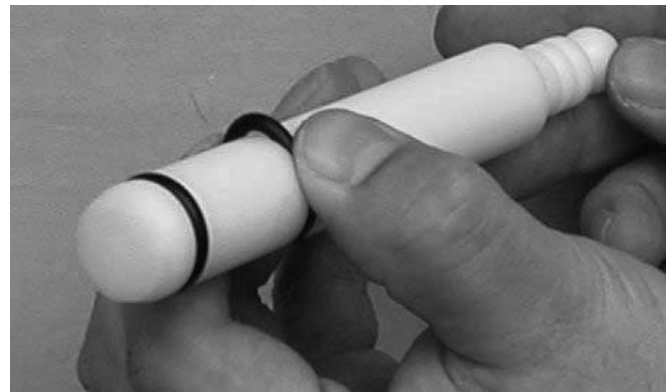

Figure 3-4 Removing O-Ring
5. Remove all o-rings from parts by first wiping off the lubricant using a clean towel. Then squeeze the o-ring upward to form a loop (Fig. 3-4). Roll out of the o-ring groove.